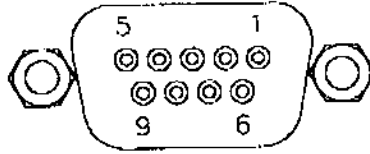

Figure 2-3. RS-485 Connector
6. Connect the RS-485 cable to the RS-485 9-pin D-sub connector on rear of subrack. Refer to figure 2-3 and table 2-3 for definition of the 9-pin D-sub RS-485 connector.
RS-485 signals may be monitored through the RS-485 9-pin female D-sub connector on the rear of the subrack. Refer to table 2-3 and figure 2-3 for pin definition of the RS-485 connector and table 2-4 for alarm attributes.
The presence of several plug-in amplifier alarms can be detected at the ALARMS connector on the subrack rear panel. Refer to figure 2-2 and table 2-2 for a description of the ALARMS connector, and figure 2-3 and tables 2-3 and 2-4 for a description of the RS-485 connector.